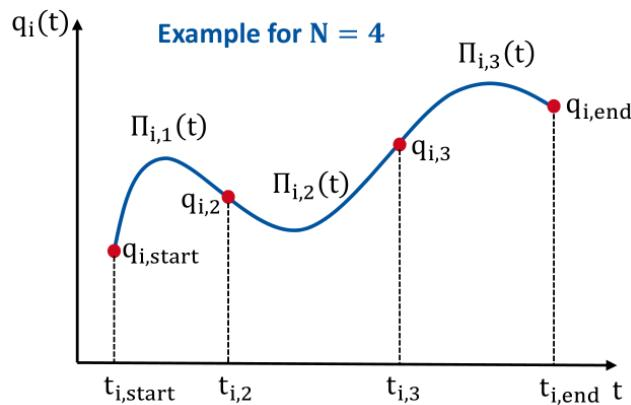

Figure 3.5: Example of motion through sequence of four points using low-order (cubic) interpolating polynomials.
- Instead of using an $(N+3)$ -order polynomial through N joint configurations, we can use low-order interpolating polynomials (Fig. 3.5).